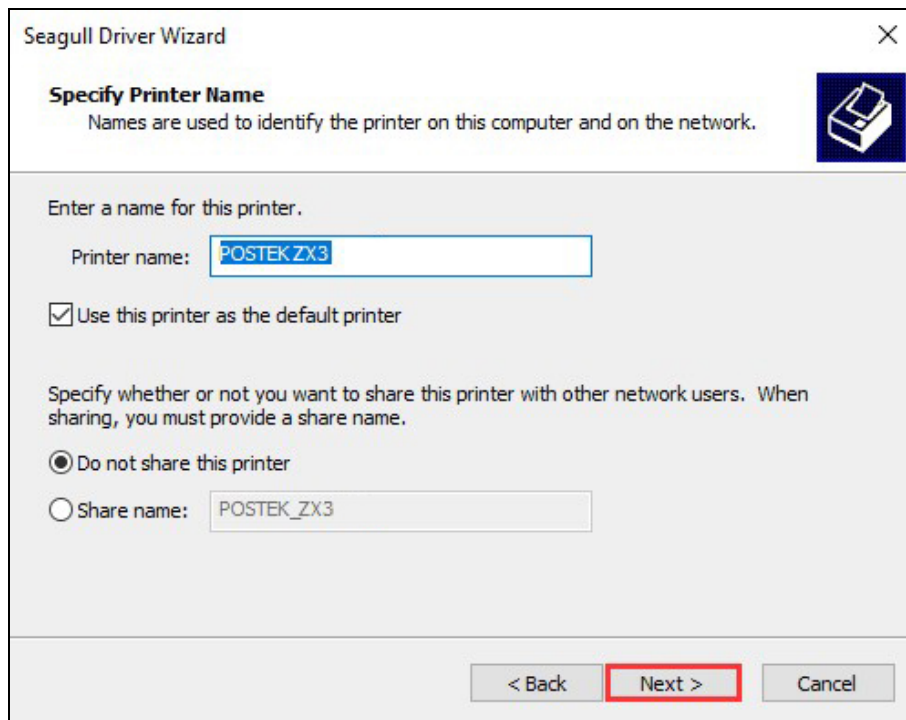

Figure 2-32 Specify Printer Name
8. On the “Specify Printer Name” screen, enter a name for the printer, as shown in Figure 2-32, then click “Next” to complete the driver installation.